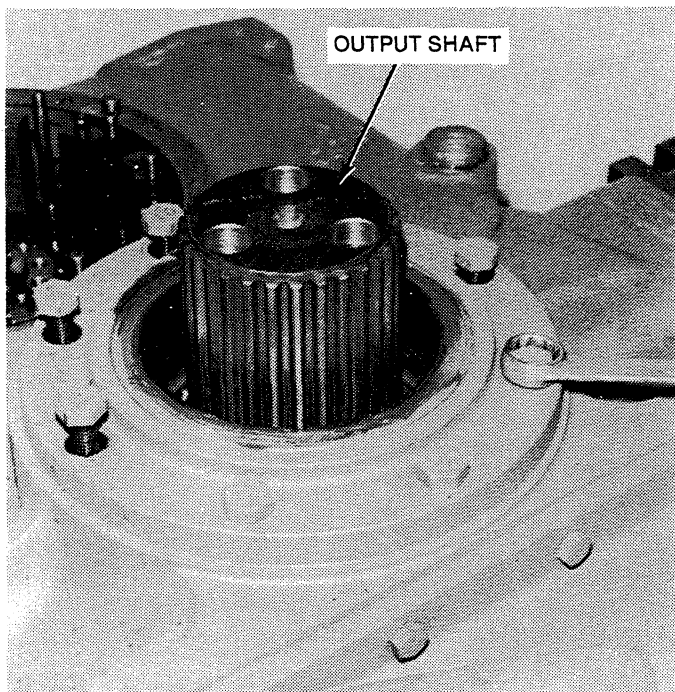

Figure 6-22. Removing or Installing Screws on Bearing Retainer.
3. Remove eight hex-head screws (Figure 12-5, 12) from bearing retainer (2). See Figure 6-22. Remove the retainer.